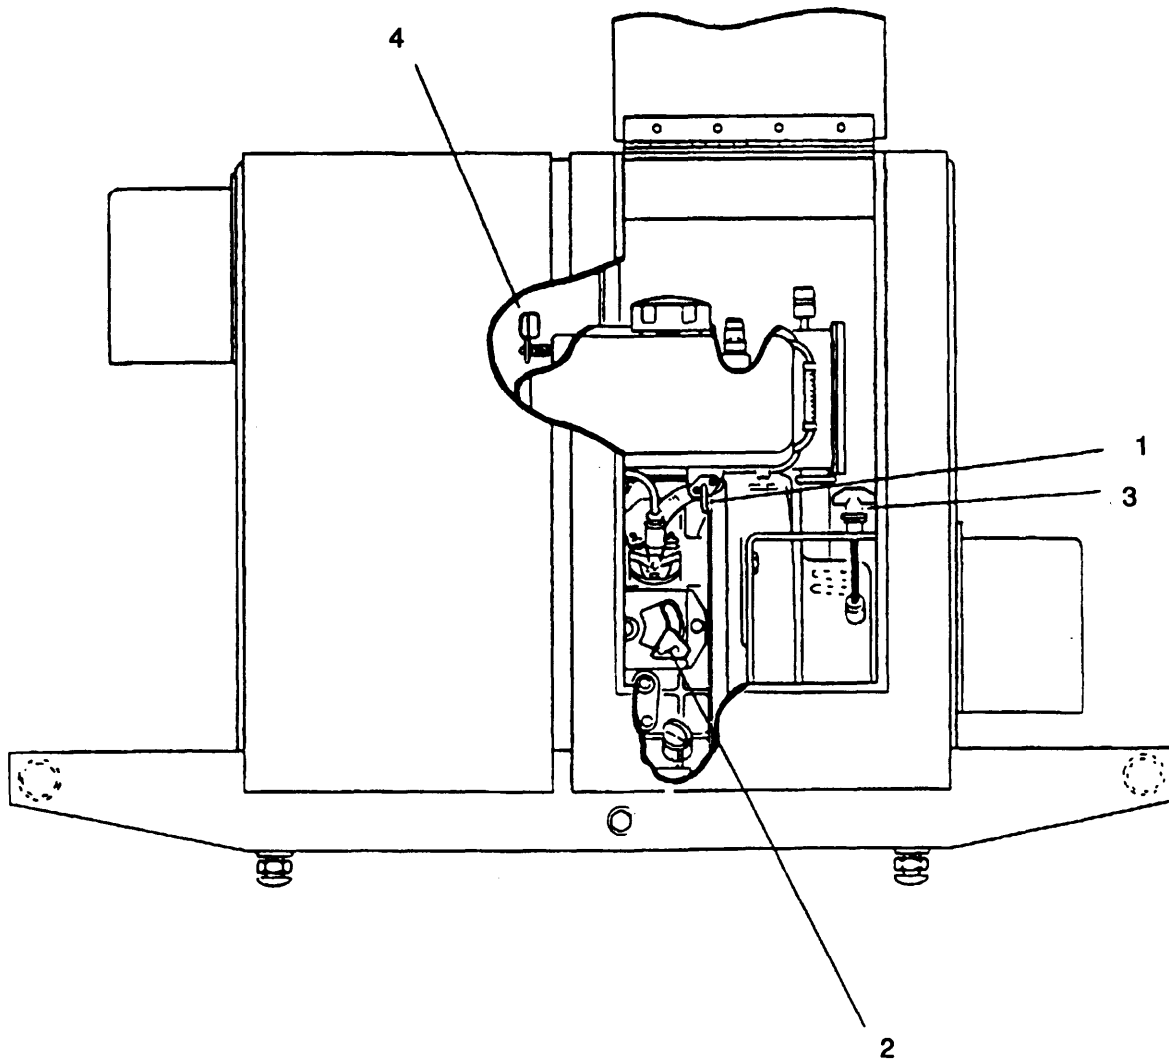

Figure 2-4. Starting Procedures
- a. STARTING (Refer to Figure 2-4)